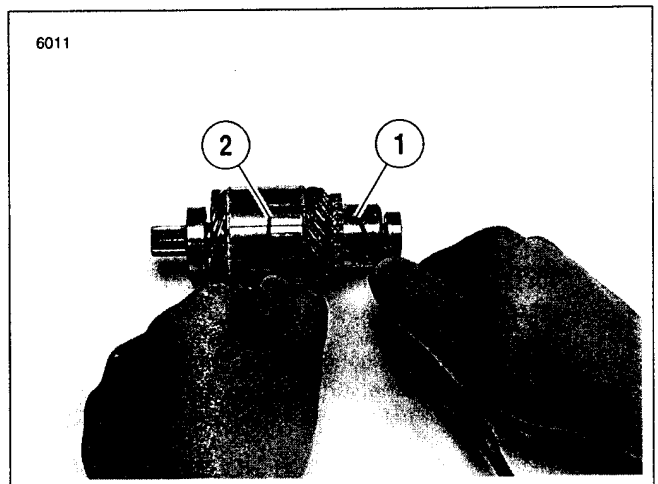
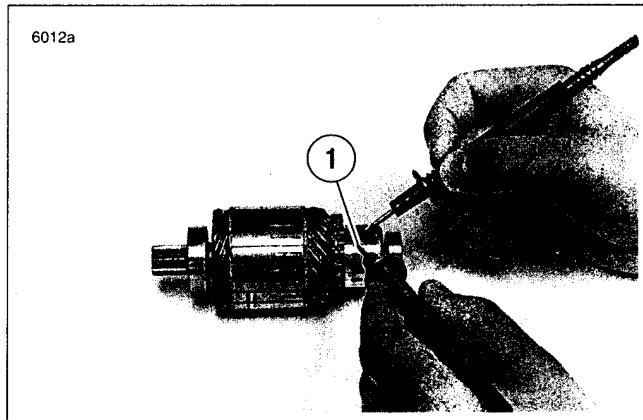

Figure 5-17. Grounded Armature Test
Figure 5-18. Open Armature Test
11. See Figure 5-17. Check for a GROUNDED ARMATURE with an ohmmeter or continuity tester.
- a. Touch one probe to any commutator segment (1).
- b. Touch the other probe to the armature core (2).
12. See Figure 5-18. Check for OPEN ARMATURE with an ohmmeter or continuity tester.
- a. Check for continuity between all commutator segments (1).